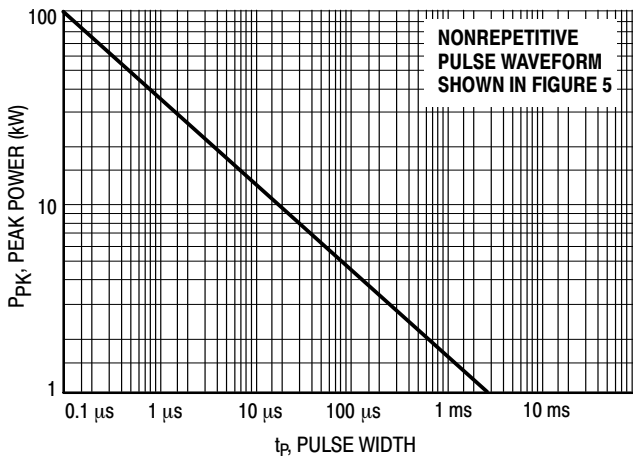
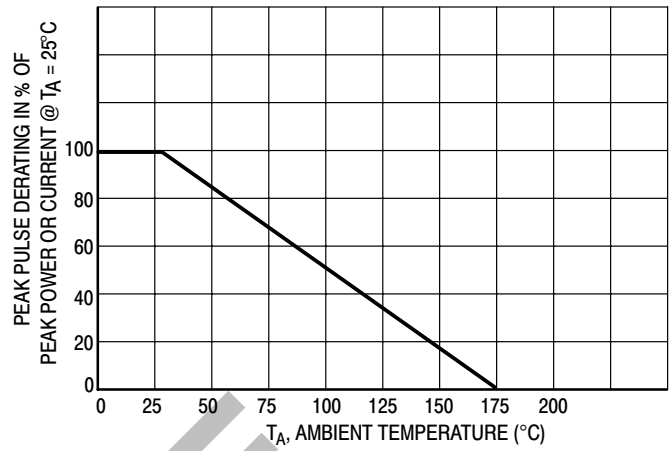
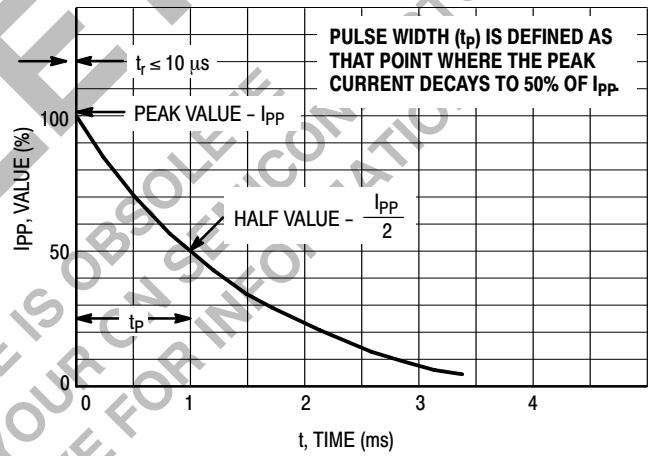
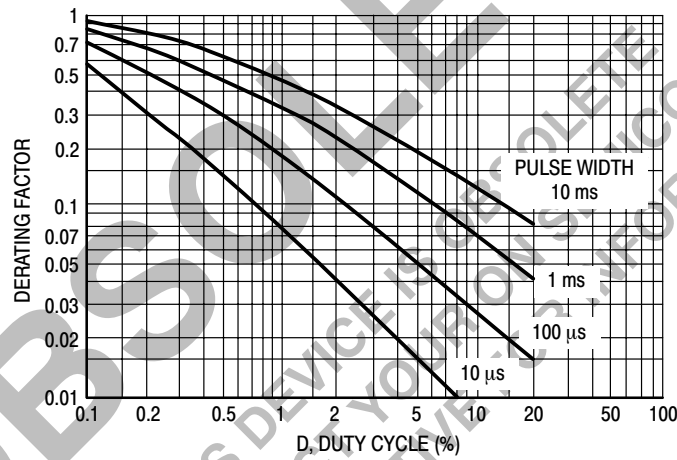

Figure 1. Pulse Rating Curve
Figure 2. Pulse Derating Curve
Figure 4. Pulse Waveform
Figure 6. Typical Derating Factor for Duty Cycle
1. Nonrepetitive current pulse per Figure 4 and derated above  $T_A = 25^\circ\text{C}$  per Figure 2.
- Surge current waveform per Figure 4 and derate per Figures 1 and 2.
The data of Figure 1 applies for non-repetitive conditions and at a lead temperature of 25°C. If the duty cycle increases, the peak power must be reduced as indicated by the curves of Figure 6. Average power must be derated as the lead or ambient temperature rises above 25°C. The average power derating curve normally given on data sheets may be normalized and used for this purpose.
At first glance the derating curves of Figure 6 appear to be in error as the 10 ms pulse has a higher derating factor than the 10 μs pulse. However, when the derating factor for a given pulse of Figure 6 is multiplied by the peak power value of Figure 1 for the same pulse, the results follow the expected trend.